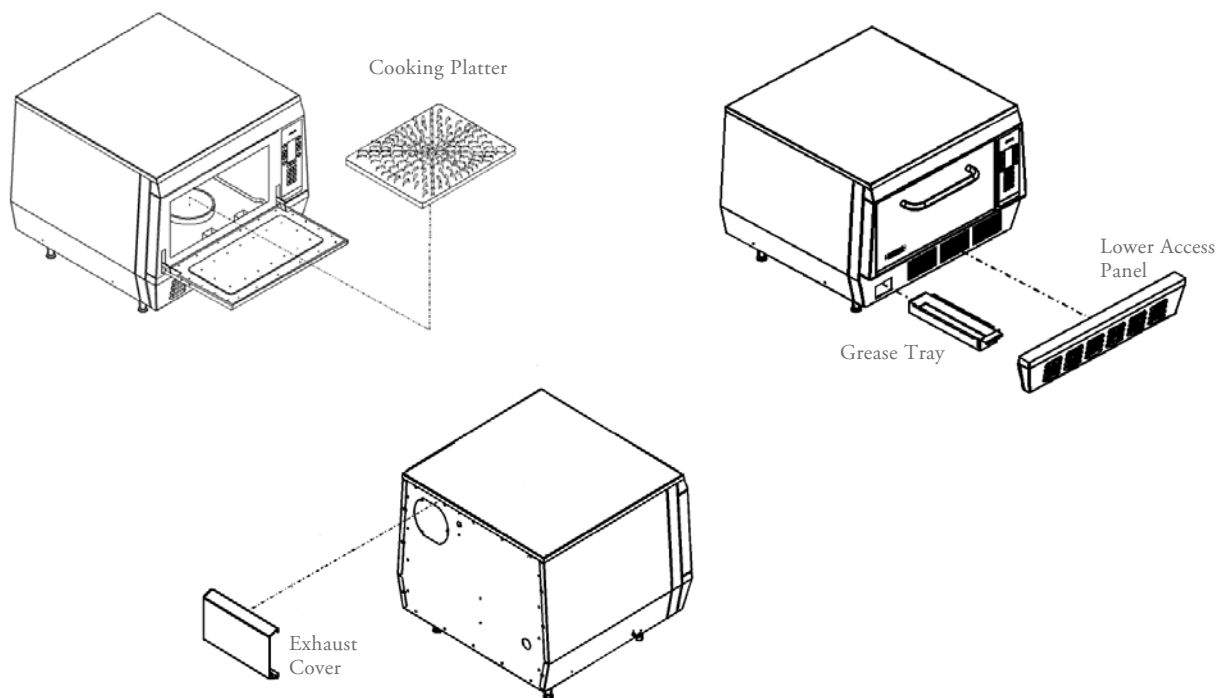

FIGURE 20: Removing Components for Cleaning.
When oven is off and has cooled, remove ceramic cooking platter (Figure 20).
- e. Wipe dry. Make sure to empty and clean grease tray found behind vent in front of oven (Figure 20).
(Figure 20)